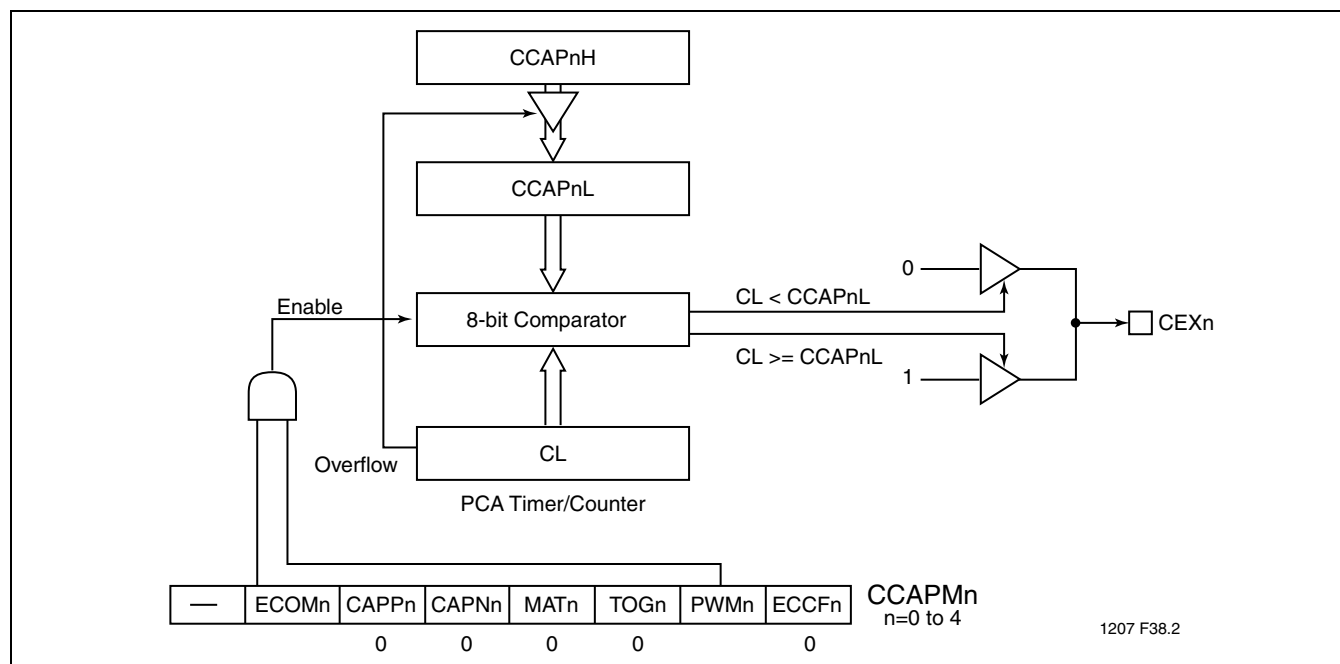

FIGURE 8-5: PCA PULSE WIDTH MODULATOR MODE
The Pulse Width Modulator (PWM) mode is used to generate 8-bit PWMs by comparing the low byte of the PCA timer (CL) with the low byte of the compare register (CCAPnL). When $CL < CCAPnL$ the output is low. When $CL \geq CCAPnL$ the output is high. To activate this mode, the user must set the PWM and ECOM bits in the module's CCAPMn SFR. (See Figure 8-5 and Table 8-7)